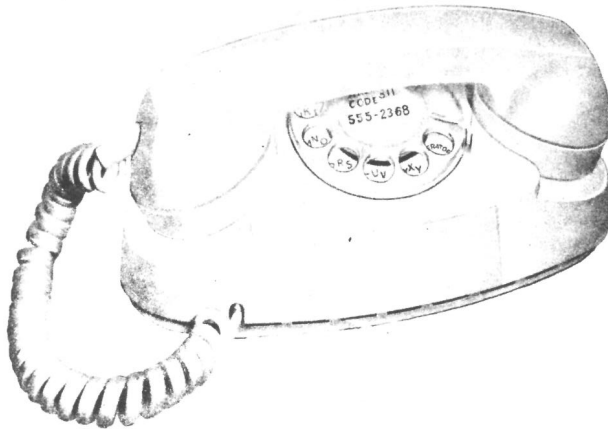

FIGURE 1 — 700-Type Telephone Set
- 1.01 This practice presents a description of the 700 series of desk telephones. The 700 series provides a group of compact, anti-sidetone type desk telephones which operate efficiently over a wide range of loop resistance and line impedance. The instruments are intended for use in special locations, such as bedrooms, or where desk space is at a premium. Each instrument consists of an oval pressed aluminum baseplate, with a non-skid rubber mat underneath, on which all internal parts are mounted. A molded plastic housing covers the assembly and provides a cradle for the handset, which is connected to the internal components by a flexible plastic covered cord (See Figure 1). A second plastic covered cord connects the instrument to a molded terminal block or wall-mounted ringer unit. *A separate ringer unit must always be fitted with these instruments, except when they are used as extension units, as the extremely compact design does not include an internal ringer.*